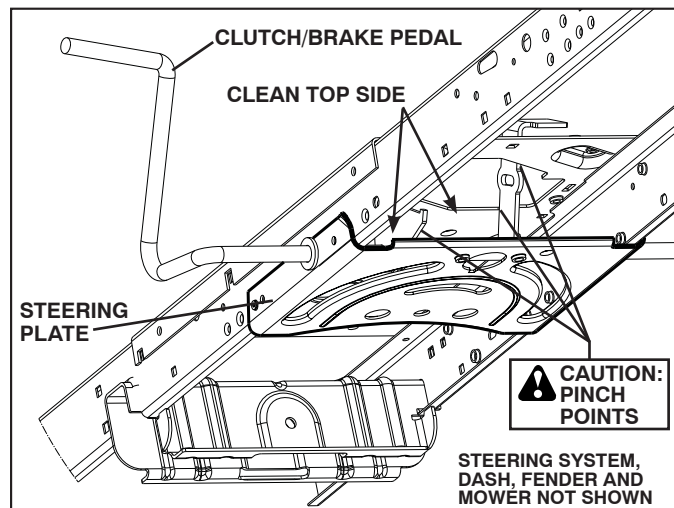

Fig. 20
**CAUTION: Avoid all pinch points and movable parts (See Fig. 20)**